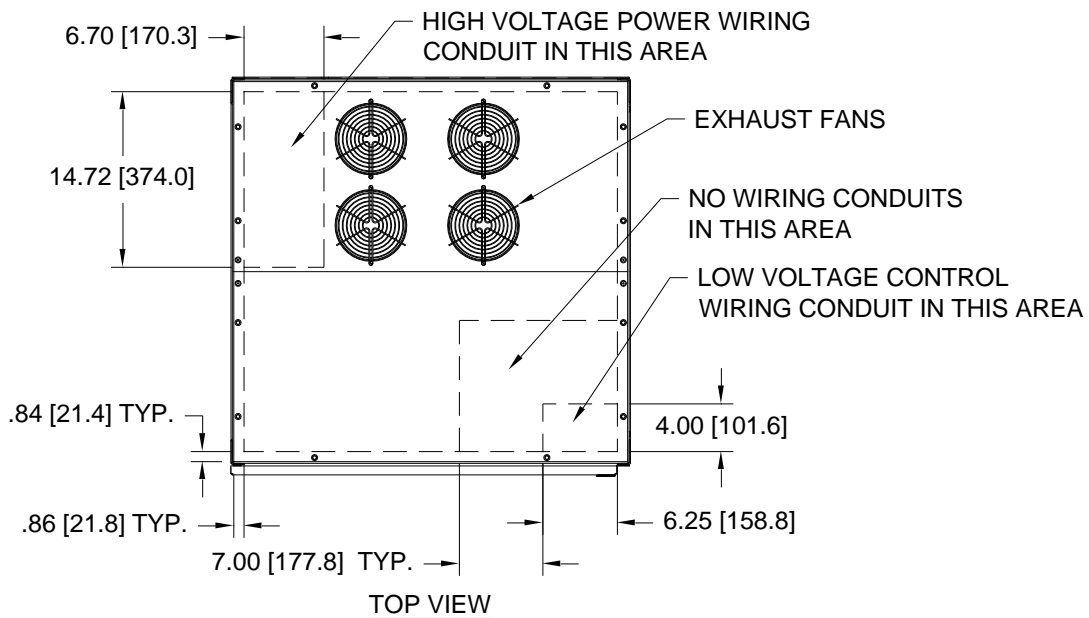

Figure 5 - Cabinet Top Conduit Locations
2. Plan the location of conduits. Conduit landing plates are provided at the top, rear, and bottom of the cabinet. As noted, there are four sets of power connections. If the MBS arrangement is included, one set of control connections will also exist. The low voltage control connection must be routed through the top front cover of the cabinet, seven (7) inches (178 mm) minimum from the power wiring to ensure physical separation between them and the power wiring. The power wiring may enter the cabinet through the top rear cover, the rear or bottom plates. See figure 5.